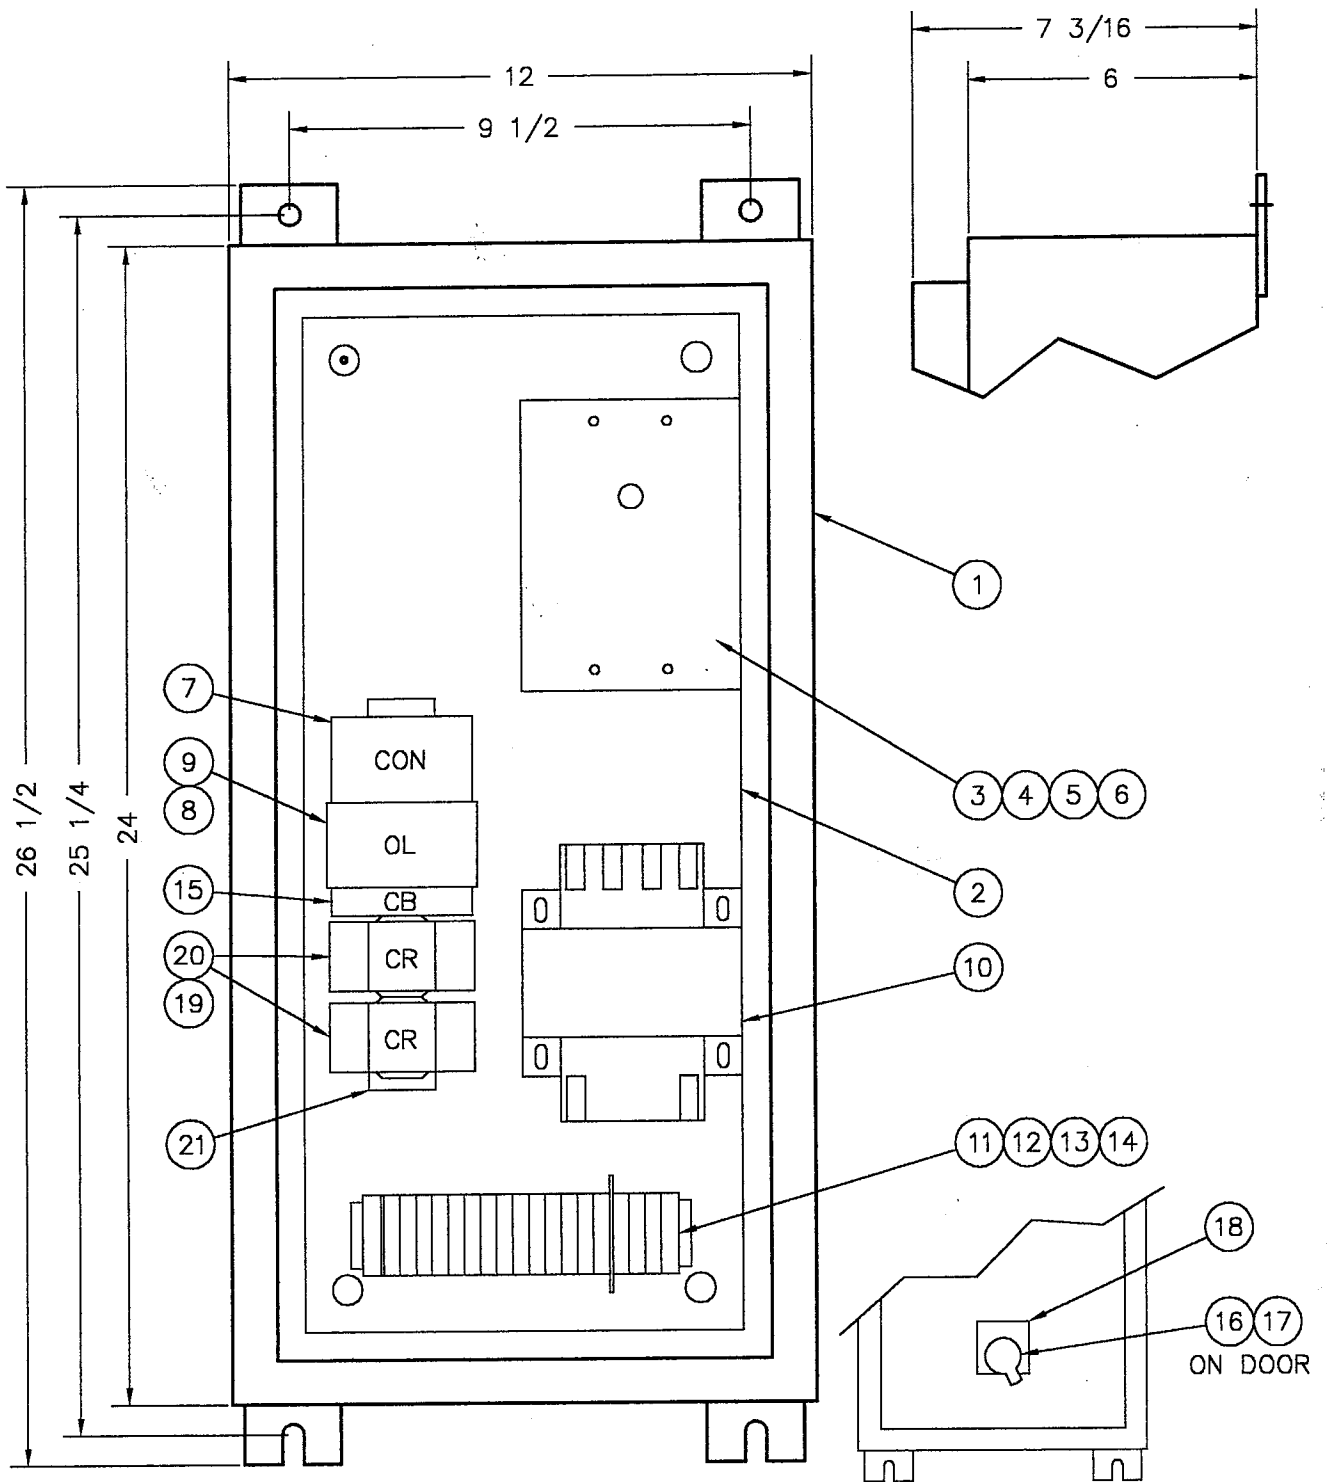

FIGURE 7-3
7.7 ELECTRICAL CONTROL PANEL (Refer to Figure 7-3)